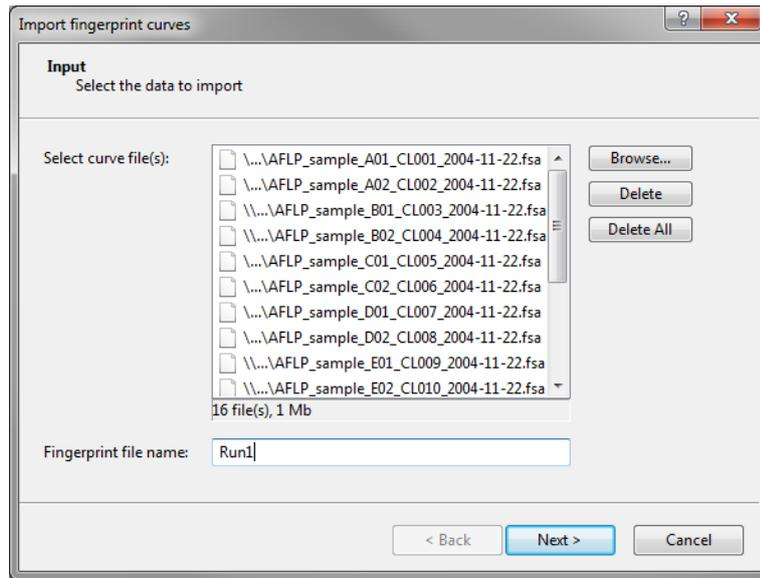

Figure 1: Selected curve files and fingerprint file name.
4. Change the name to **Run1** and press **<Next>** (see Figure 1).